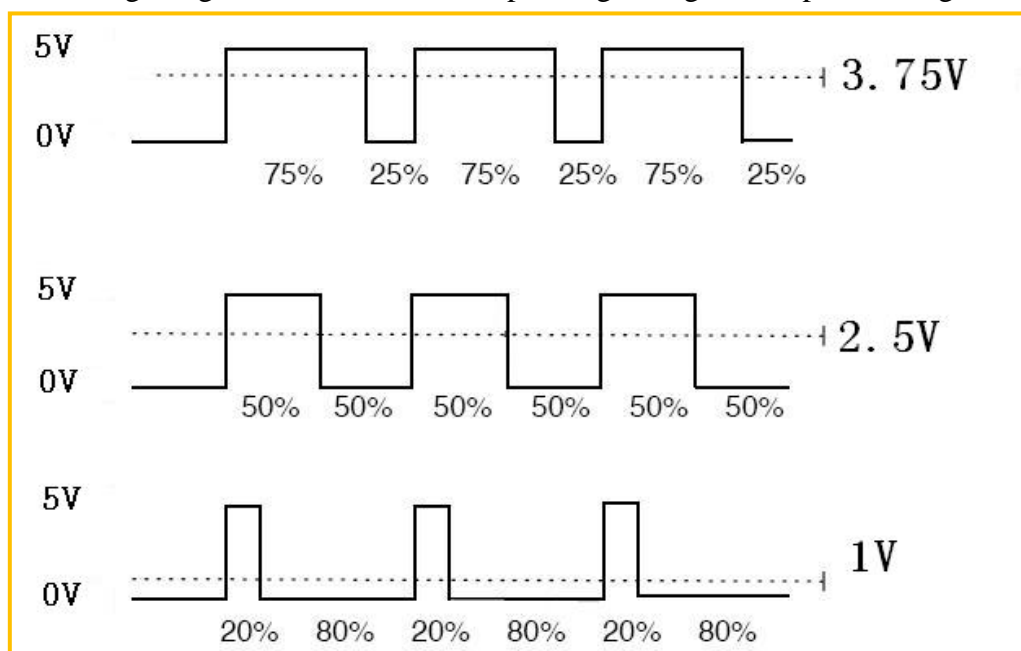

Figure .2.4.6 Relation between Pulse and Voltage
In Arduino, analog voltage can't be output, only 0 or 5V digital voltage value, we can use high resolution counter and the duty cycles of the square wave modulation method to encode a specific level of analog signal. The PWM signal is still digital, because at any given time, the full amplitude of DC power supply is either 5V (ON) or 0V (OFF). The voltage or current source is added to the analog load with a ON or OFF repetitive pulse sequence. When the DC power supply is added to the load, the power supply is on, otherwise the power supply is off. As long as the bandwidth is enough, any analog value can use PWM to encode. The output voltage value is calculated by the on and off time. Output voltage = (turn-on time / pulse time) \* maximum voltage. Fig.2.4.6 shows the corresponding voltage to the pulse change.